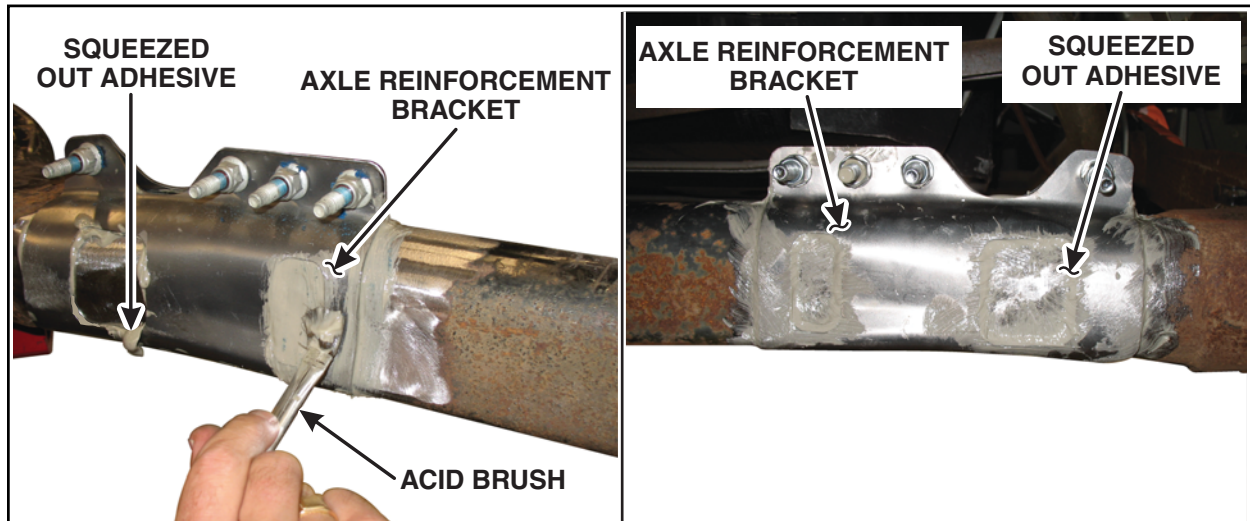

FIGURE 10
17. Brush the squeezed out adhesive around all edges of the axle reinforcement brackets with an acid brush to ensure all openings are completely sealed. See Figure 10.